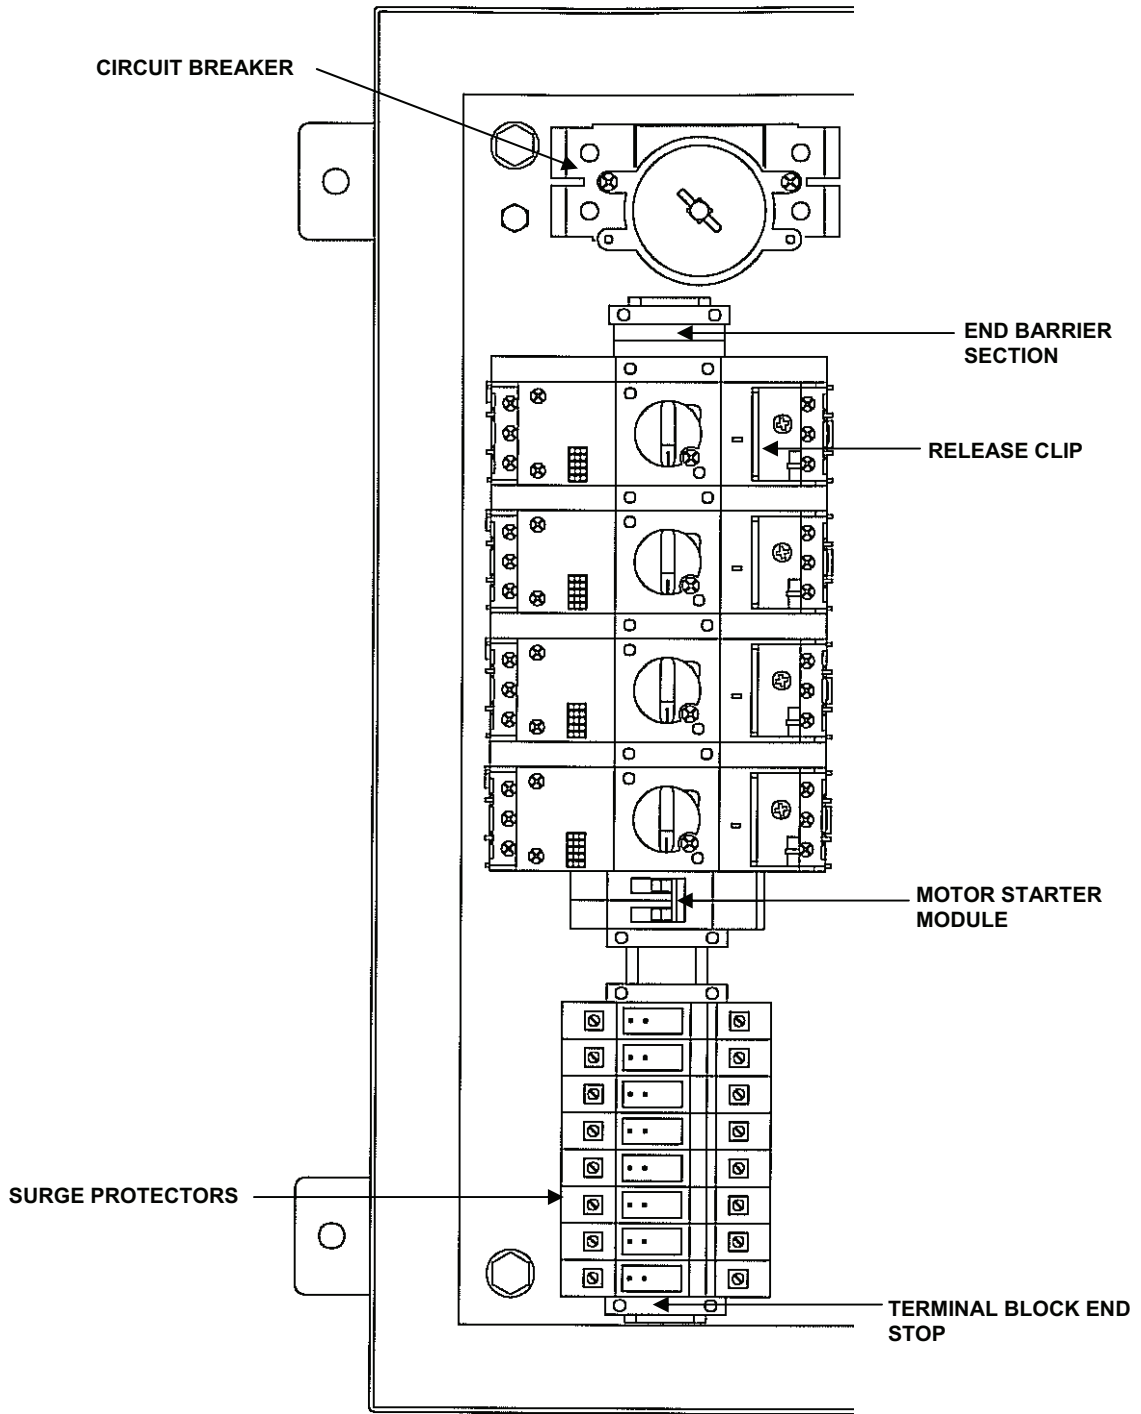
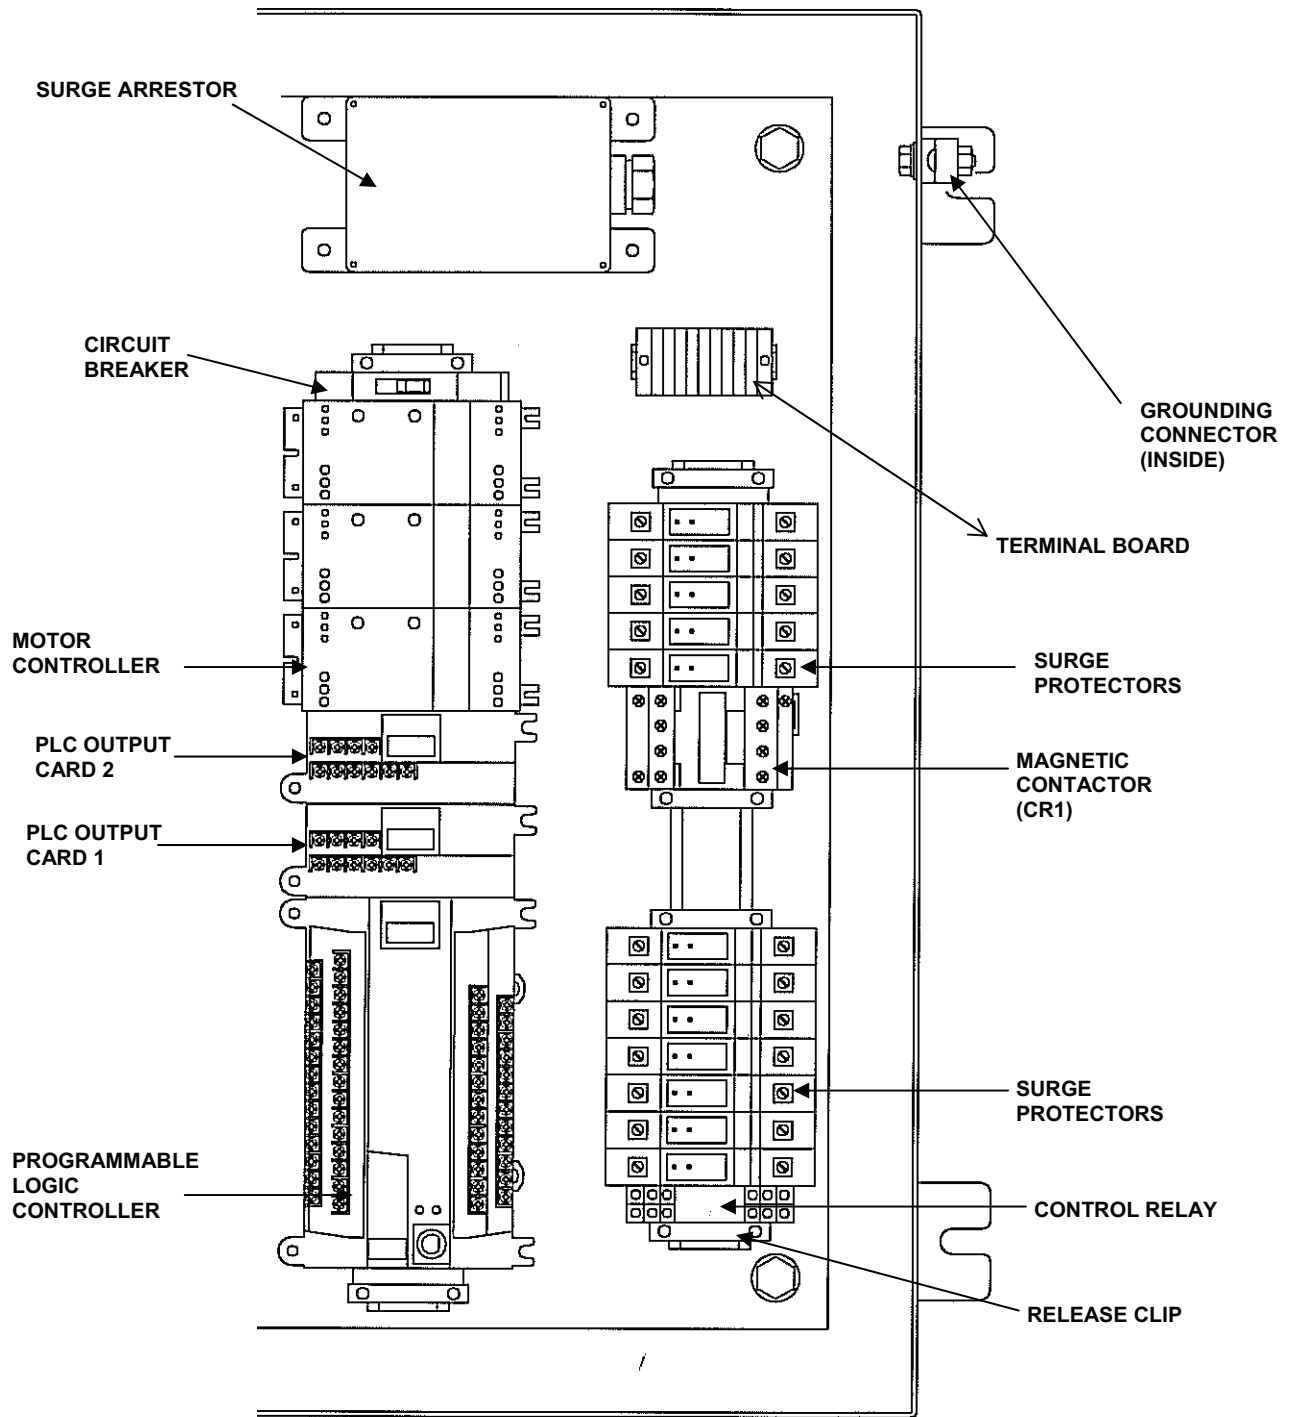

Figure 3. Control Module Internal Components (Top).
Figure 4. Control Module Internal Components (Bottom).
See Figure 3 and Figure 4 for internal components in the control module.
1. Make note of wire numbers on circuit breaker for ease of reinstallation. See Figure 3.
3. Remove two (2) slotted screws from circuit breaker.
5. Remove depth shaft assembly from circuit breaker by removing the two (2) mounting screws.
1. Place circuit breaker on mounting plate. See Figure 3.
2. Install the two (2) slotted screws through circuit breaker.
4. Insert depth shaft into circuit breaker and replace two (2) mounting screws.
1. Make note of number and location of all wires on motor starter module. See Figure 3.
1. Grasp surge suppressor. See Figure 3 and Figure 4.
1. Make note of number and location of four (4) wires on motor controller. See Figure 4.
2. Remove four (4) wires from motor controller.
1. Make note of the number and location of wires on circuit breaker. See Figure 4.
2. Remove two (2) wires from circuit breaker.
1. Make note of number and location of four (4) wires on circuit breaker mounting bracket. See Figure 3.
The PLC has 14 input and 12 output. Inputs 15 through 23 are spares, outputs 13 through 16 are spares. See Figure 4.